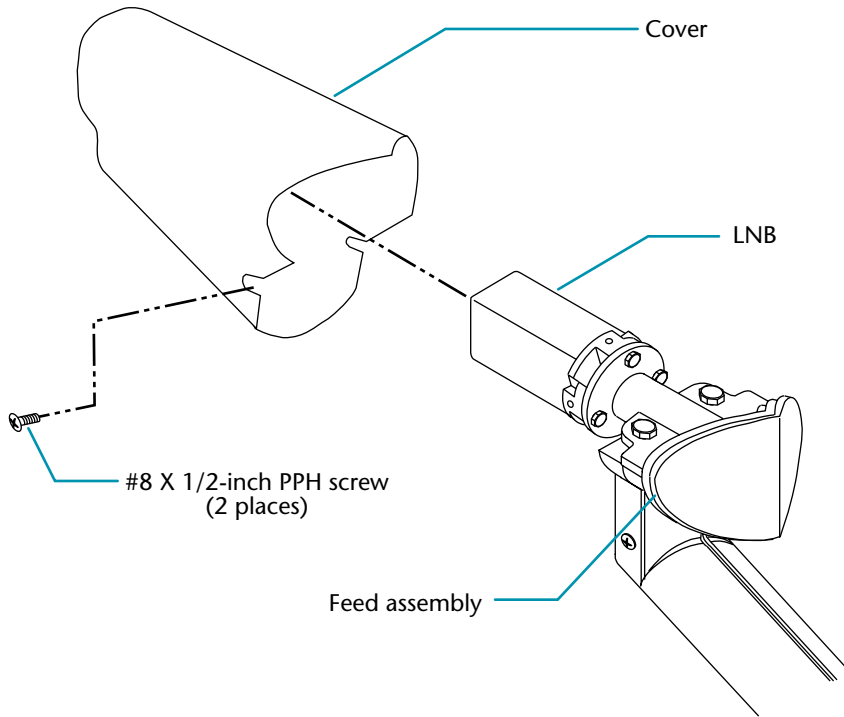

Figure 4-13. Removing cover from feed assembly
1. Using a Phillips screwdriver, remove the two #8 X 1/2-inch PPH screws from the feed assembly cover (see figure 4-13).